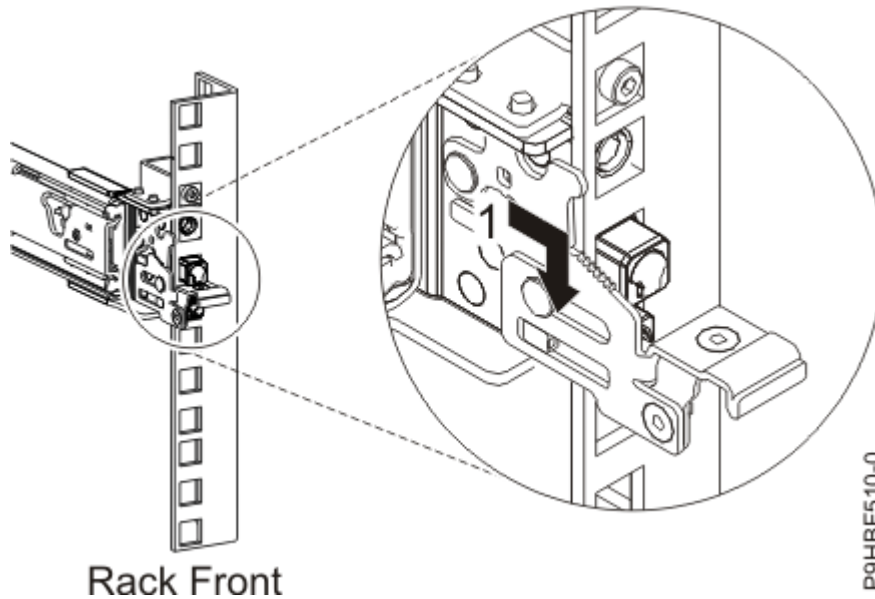

Figure 3. Inserting pins on the front rail of the rack
3. At the front of the rack, insert three pins on the front of the rail into the holes within the selected EIA unit that were previously marked. Lower the slide rail down (**1**) to engage the hook feature on the middle pin. See Figure 3 on page 5.